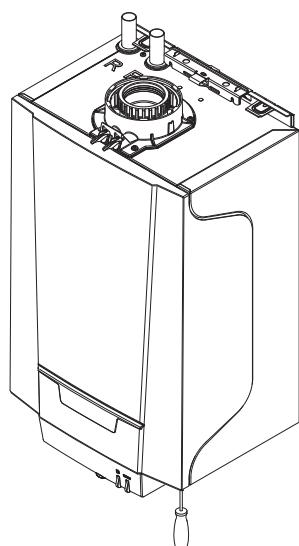

Fig. 36
1. Unscrew the two securing screws on the front panel. Remove the front panel (Figs. 36 & 37).